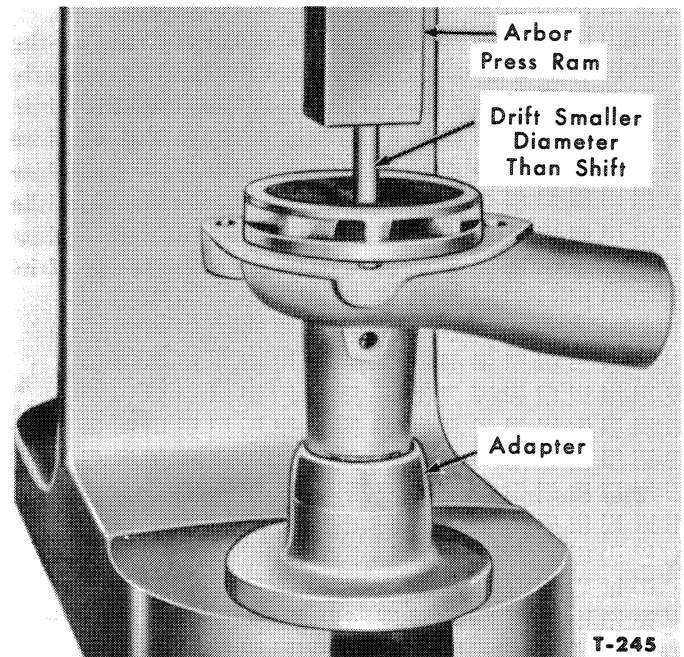

Figure 4—Removing Water Pump Shaft and Bearing
4. Press the shaft and bearing assembly out of the impeller and pump body, as shown in Figure 4. Use a suitable adapter or plate to hold the pump body in the position shown.